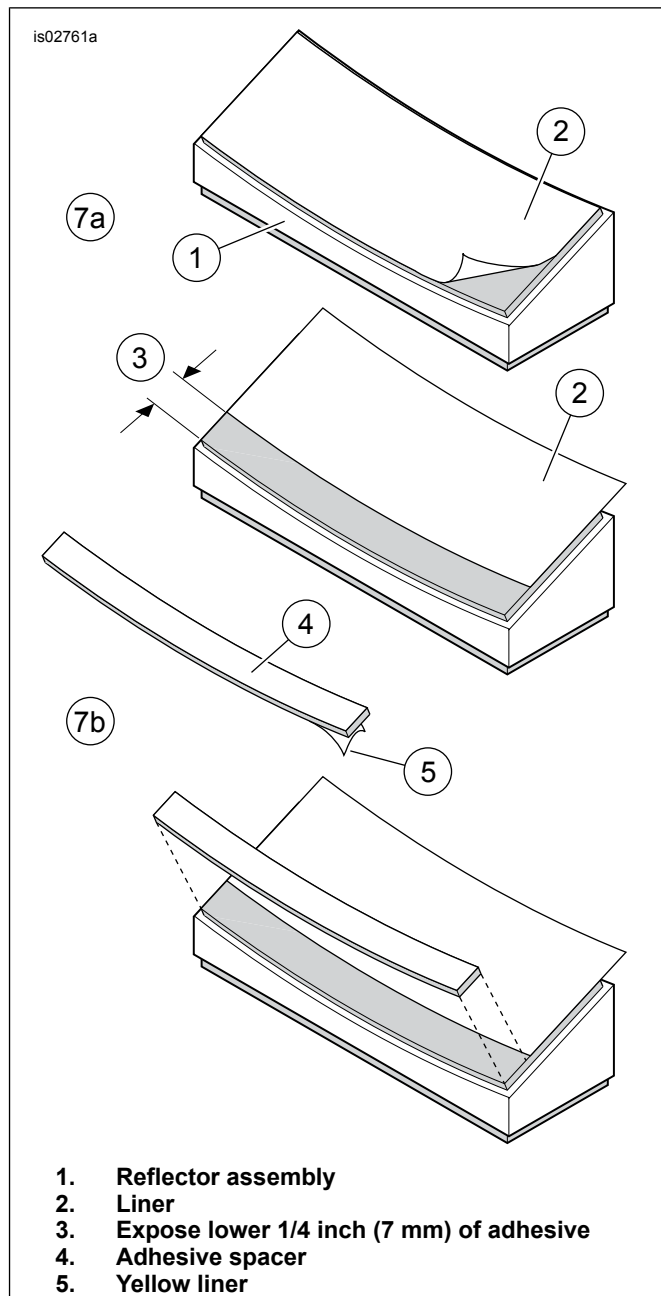
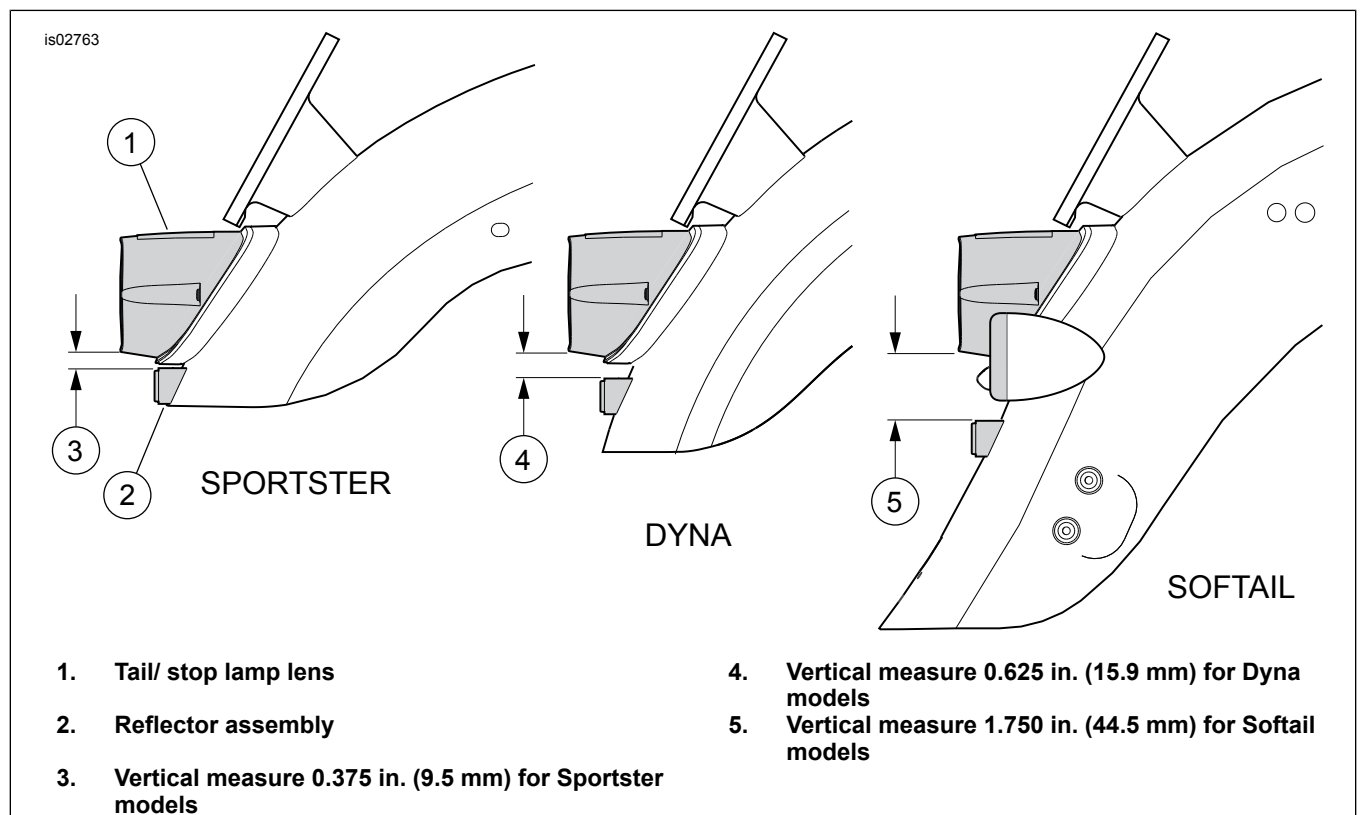

Figure 2. Installing Adhesive Spacer To Reflector (Dyna and Sportster Models Only)
Figure 3. Reflector Mounting
7. **For Dyna and Sportster models only:** The adhesive spacer (13) must be added to the back of the reflector to position the reflector at the correct angle for optimal visibility.
- a. See Figure 2. Peel the liner (2) from the adhesive surface of the reflector assembly (1). Re-position the liner to expose the lower 1/4 inch (7 mm) of adhesive (3).
- b. Peel the yellow liner (5) from the adhesive spacer (4). Carefully position the spacer to the exposed adhesive surface of the reflector assembly, and press firmly into place.
- b. Use a straight-edge to find a location on the fender as indicated in the view in Figure 3 for your model motorcycle. Do not follow the curve of the fender, but measure straight down. Make a horizontal mark on the fender at this location.